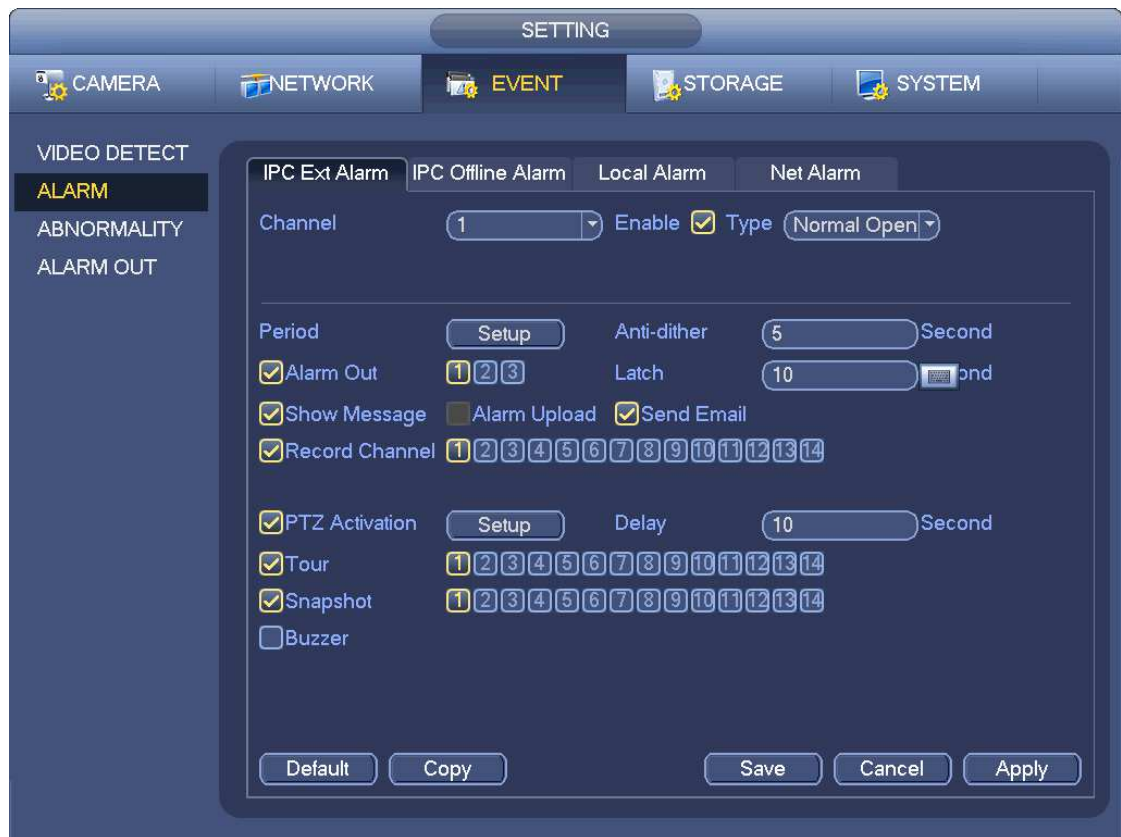

Figure 4-70
In the main menu, from Setting->Event-> Alarm, you can see alarm setup interface. See Figure 4-70.
- c) From Main menu->Setting->Event->Alarm, you can go to Figure 4-70 to set alarm parameter and enable snapshot function.